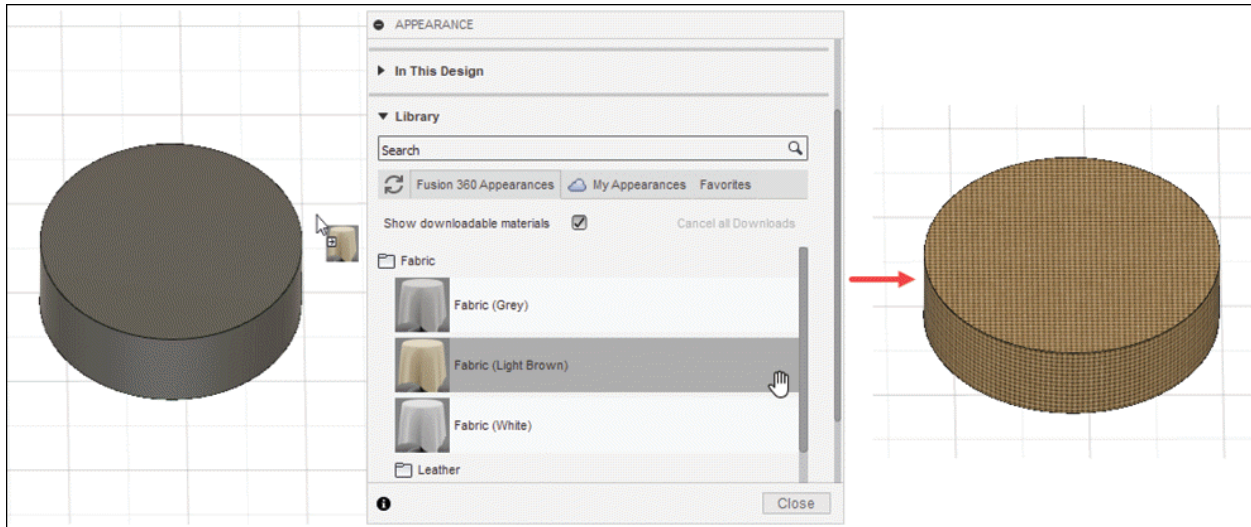

Figure-73. Applying appearance on the body
- Drag an appearance and drop it to the body or face; refer to Figure-73.